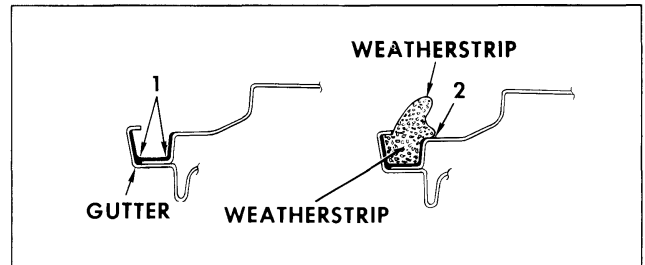

Fig. 14-14 Rear Compartment Weatherstrip
2. Apply (brush) a continuous coat of neoprene weatherstrip adhesive along bottom, inner and outer walls of gutter as indicated at "1" in figure 14-14 around complete length of gutter.
5. Using a pressure type applicator, apply neoprene weatherstrip adhesive between gutter and weatherstrip as indicated at "2" in figure 14-14 completely around gutter to insure a watertight seal.
5. To install tail gate torque rod, reverse removal procedure. Prior to installing torque rod lubricate frictional surfaces of torque rod and bearing plate with Lubriplate or its equivalent. Check that torque rod nylon silencers are properly positioned on retainer. After installation of torque rod, install rubber silencers on rod (Fig. 14-14).